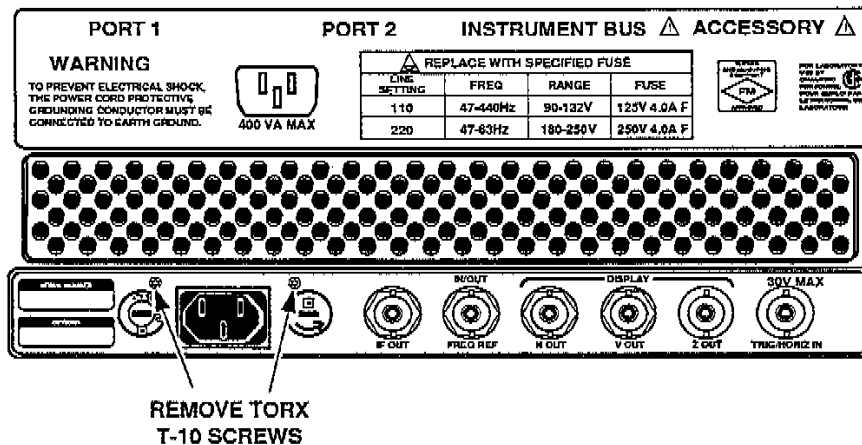

Figure 4-30. Line filter removal.
3. Remove the two Torx T-10 screws at the sides of the power input connector as indicated on Figure 4-30.